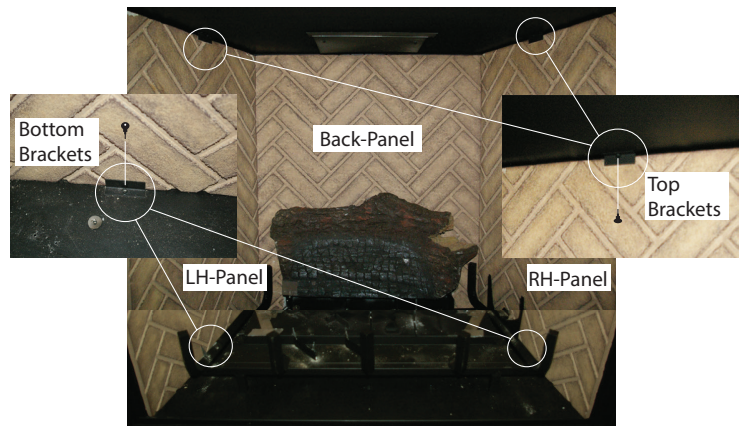

Figure 22. (Removing Refractory panels).
**Step 1.** Remove the RH-TOP machine screw that hold the Side Refractory panel in place, then the bottom, **Figure 22. (Philips head screwdriver required).**
**Step 2.** Remove the RH-Refractory panel from the firebox, **Figure 22. (Place the Refractory panel somewhere safe where it will not get chipped or damaged).**
**Step 3.** Follow step1 & 2 to remove the LH-Side Refractory panel, **Figure 22. (Philips head screwdriver required).**
**Step 1.** Remove the RH Refractory Panel as described in **Figure 22.**
**Step 1.** Remove the LH Refractory Panel as described in **Figure 22**.